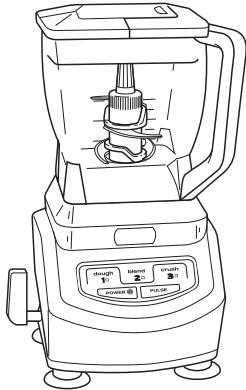

Fig. 9
- 2 Add the ingredients and secure the bowl lid onto the bowl. (Fig. 9)